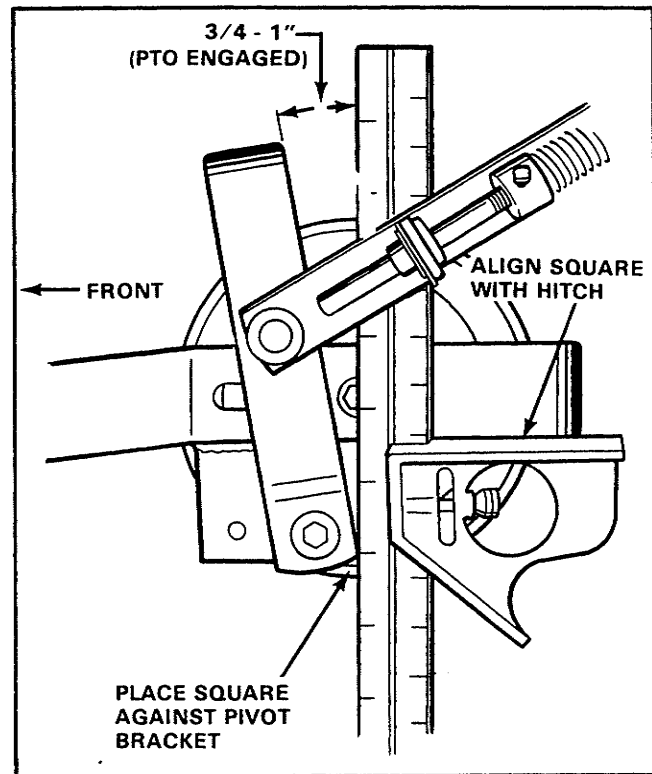

Figure 12A. PTO Adjustment
3. Place a "square" against hitch and pivot bracket as shown in figure 12A. The top of the pivot bracket should be 3/4 to 1 inch (19 to 25 mm) from vertical as shown. (The bracket must lean toward front of unit as shown.)